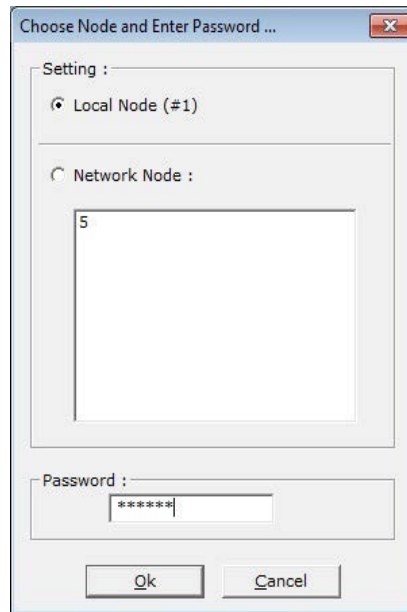

Figure 4-35. Select Node and Enter Password - Receive Walk Test Log
1. Select Tools-> Verify to check syntax of the EOC code and verify that device and circuit addresses are used properly. In response, the prompt for a password (Figure 4-35) is displayed.